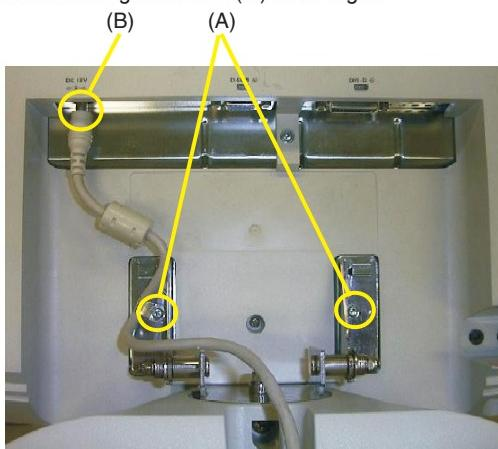

Fig. 3
Step 1 : Remove two screws (A) and unplug 18VDC power connector (B). See Fig. 3